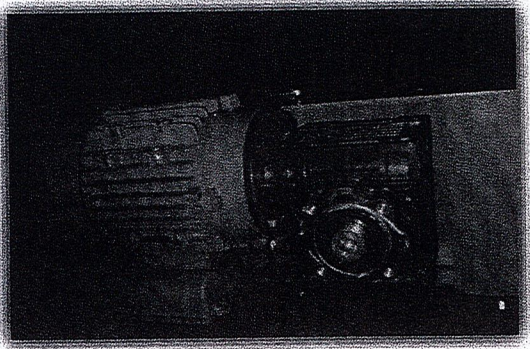

Figure 9: Motor and Reducer for Chain Mechanism
- ✓ **ELECTRIC MOTOR and REDUCER, Figure 9.**
➤ Anchor the machine to its foundation by the help of the four holes in its base. The machine is provided with 10 mm bolt holes set at center of 305 mm wide x 317 mm width, for securing the unit to the floor (See Figure 9).